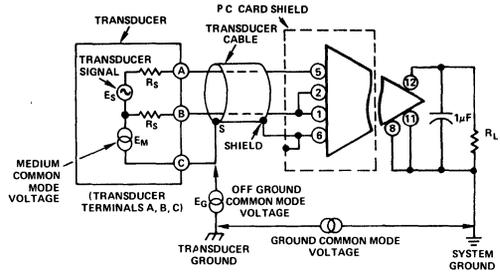

Figure 3. Transducer - Amplifier Interface
- Drive the transducer cable shield, S, with the common mode signal source, E_G , to reduce the effective cable capacitance as shown in Figure 3. This is accomplished by connecting the shield point S, as close as possible to the transducer signal low point B. This may not always be possible. In some cases the shield may be separated from signal low by a portion of the medium being measured (e.g. pressure transducer). This will cause a common mode signal, E_M , to be generated by the medium between the shield and the signal low. The 86dB CMR capability of both models between the input terminals (HI IN and LO IN) and GUARD, will work to suppress the common mode signal, E_M .